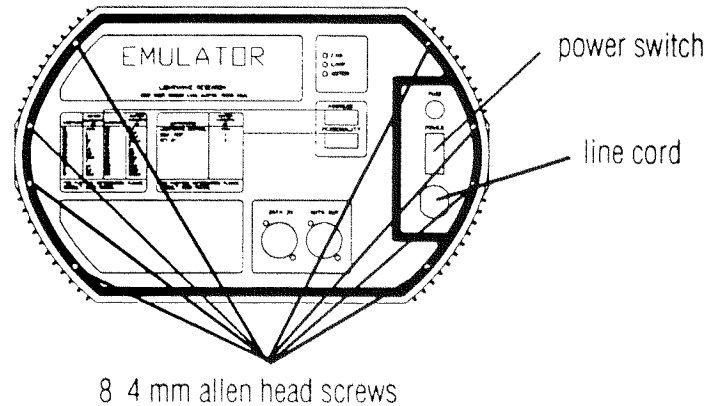

Figure 1.1 Emulator Fixture Rear Panel
(Turn off the power switch and unplug the fixture.) (See Fig. 1.1)
2. Take off the rear panel by removing the eight 4 mm (9/64 in.) allen head screws securing it to the fixture. (See Fig. 1.1)